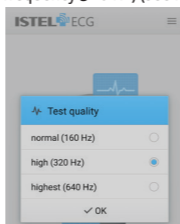

Fig. 17
- Quality of measurement. The Istel HR-2000 ECG Recorder can perform and save measurements at three different sampling frequencies. Example: medium quality (320 Hz) means that measurement has been performed 320 times per second (Recommended frequency 320 Hz) (see Fig. 17).